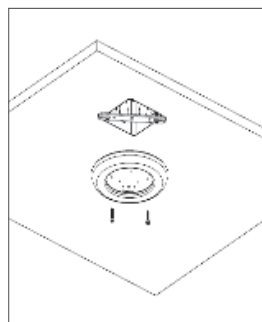

FIGURE 5
**F)** If the fixture is installed to 3.5" or 4" junction box, align appropriate holes on the fixture to the holes on the mounting bracket (2.75" distance). Use 2 of the included screws (M4x20 screws) to attach the fixture to the mounting bracket. If the fixture is installed to a 2.75" junction box align appropriate holes on the fixture with the holes on the junction box. Use 2 of the included screws (M4x40 screws) to attach the fixture which should be flush with the ceiling. Do not overtighten screws or fixture will not be flush with the ceiling. (Figure 5)